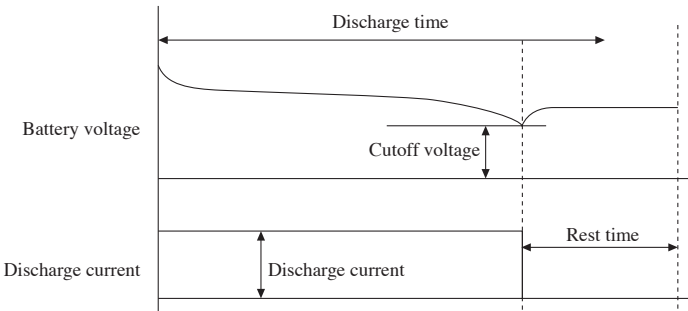

Fig. 5-27 Illustration of Constant Current Discharge
Fig. 5-27 shows an illustration of the constant current discharge (CC) operation. The figure illustrates the transition of constant current discharge → voltage drop to the cutoff voltage → discharge termination → discharge rest.